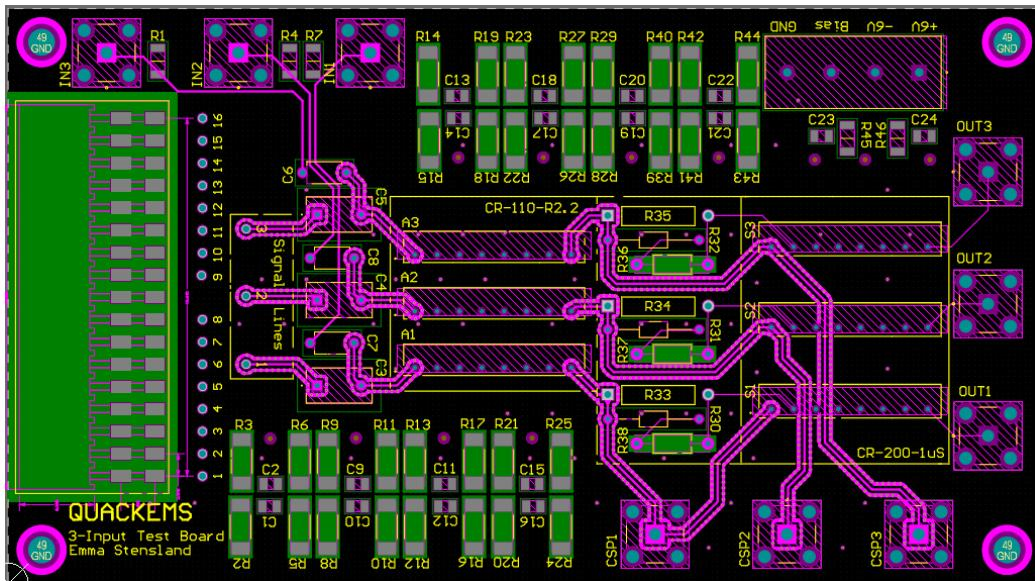

Figure 13: Layer 2 of 3-Input Test Board
2. Electrically Shielded I/O Signals of Preamp (Fig. 13)